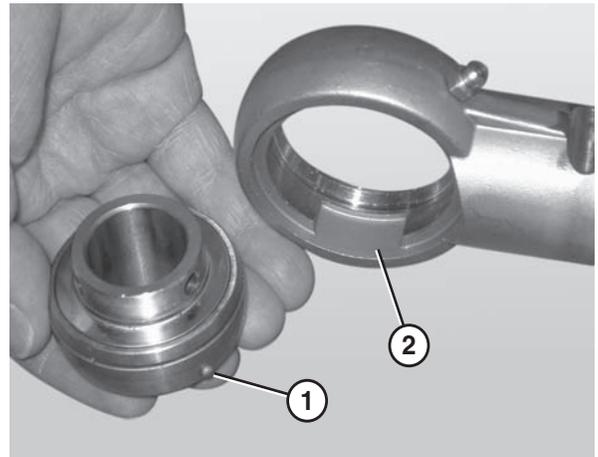

Figure 86
- Remove the worn or damaged bearing (**Figure 86**).
When inserting the new bearing, make sure the anti-rotation notch (**Figure 86, item 1**) on the bearing lines up with the groove inside the housing (**Figure 86, item 2**).